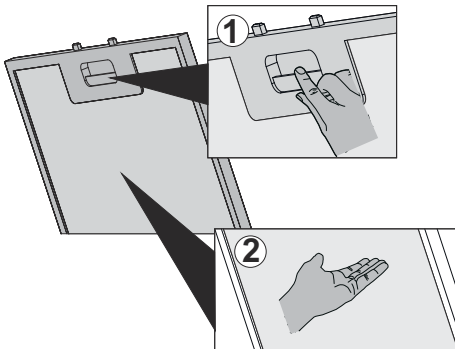

Fig. 7
- Press the aluminum filter tab (1) and pull the aluminum filter to the direction of the arrow (Fig. 7 /1).
- As you remove the aluminum filter, hold it with your other hand to prevent it from dropping (Fig. 7/2).